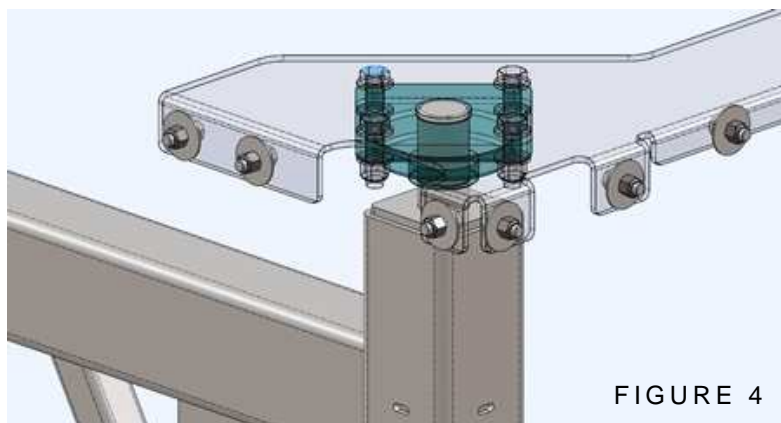

FIGURE 4
2. Carefully lift the assembly into the van, and position the upper mast pivot shaft into the upper mounting bracket bearing (see figure 4). Insert the 1/2-13 X 4-1/2" center mast bolt through center area of mast to lock the adjustable mast to the proper height.